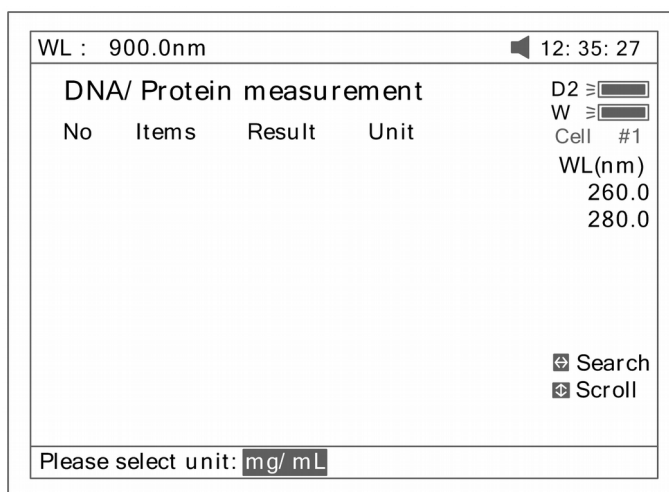

Fig 64
3.Press **(F3)** to select the unit of concentration (Fig 64).